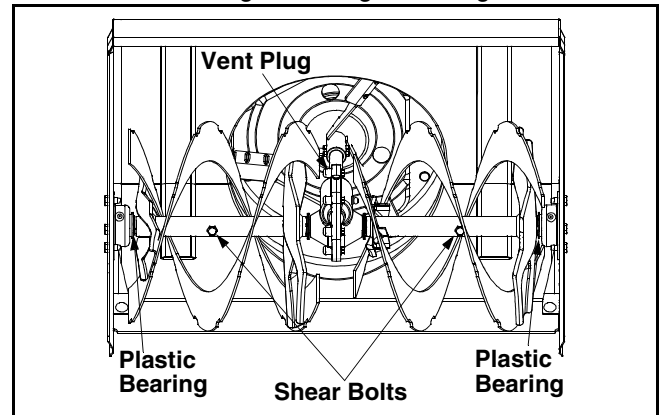

Figure 22
- At least once a season, remove shear bolts on auger shaft. Oil or spray lubricant inside shaft and lubricate the auger bearings. See Figure 22.
- The augers are secured to the spiral shaft with two shear bolts and hex lock nuts. If you hit a hard foreign object or ice jam, the snow thrower is designed so that the bolts may shear. Refer to Figure 22.